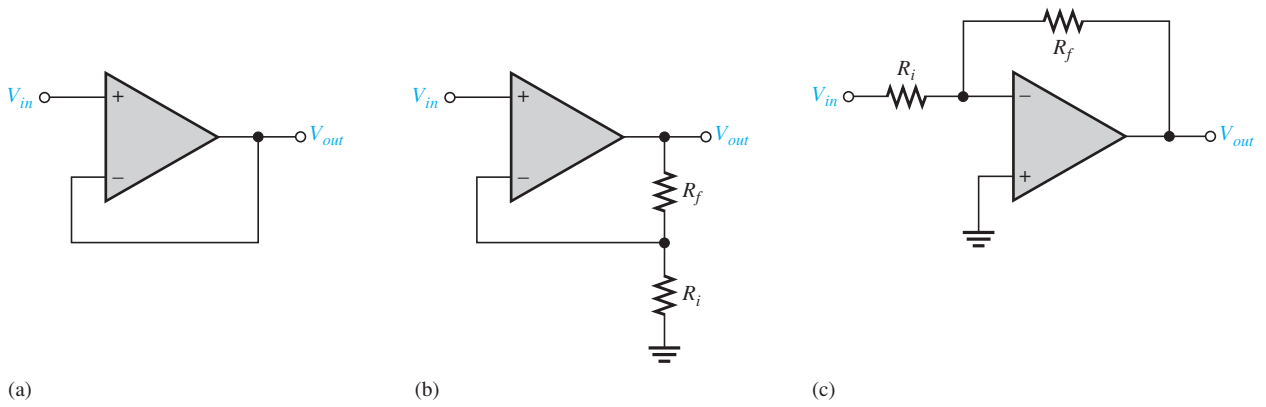

FIGURE 6-42
14. Identify each of the op-amp configurations in Figure 6-42.